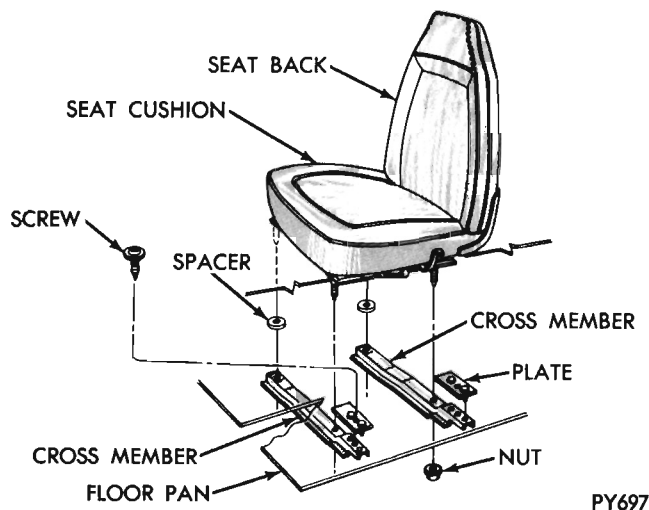

Fig. 30 - Six Way Manual Seat - Barracuda
**Six Way Manual Seat (Fig. 30)**